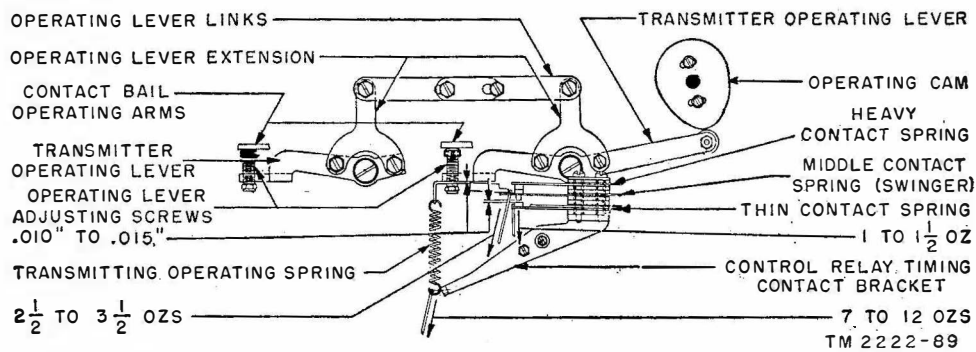

Figure 87. Control relay timing contacts (two-channel transmitter distributors).
When the operating lever roller is on the highest part of its cam, and the detent roller rests between two teeth on the feed wheel ratchet, there should be some clearance, not over 0.010 inch, between the face of a tooth on the ratchet wheel and the face of the feed pawl (fig. 62). To adjust, loosen the operating lever adjusting lock screw nut and position the adjusting screw. Tighten the locknut and recheck the adjustment. In meeting these requirements, set the adjusting screws of both transmitters approximately the same in their operating levers. If this adjustment does not result, loosen the operating lever link clamp screws and lengthen or shorten the link so that the B transmitter adjusting screw will be set approximately the same as the A transmitter adjusting screw when the B transmitter adjusting screw adjustment is remade. Tighten the operating lever link clamp screws and refine the B transmitter adjusting screw. Tighten the nut; recheck the adjustment. See figure 87 for location of parts.
### 154. Control Relay Timing Contacts and Transmitting Operating Lever Spring (Two-Channel Transmitter Distributors) (fig. 87)
f. Unhook the transmitting operating lever spring from the contact bracket. With the operating lever on the high part of its cam, hook a 32-ounce scale to the spring and pull horizontally. A pull of 7 to 12 ounces is required to stretch the spring to position length (fig. 87). Rehook the spring.